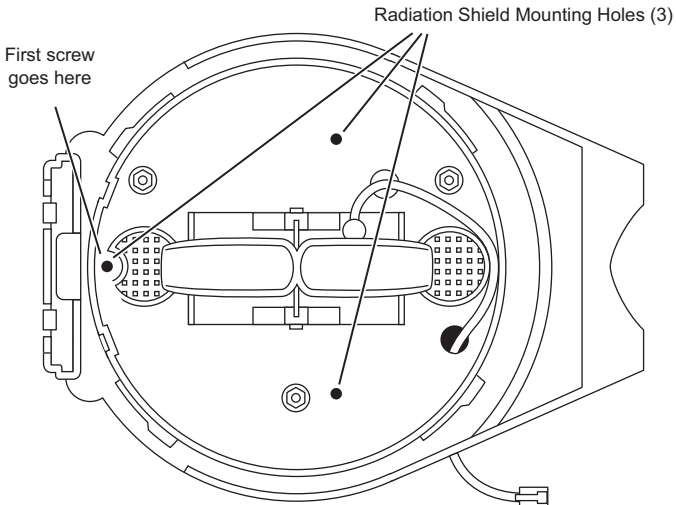

Figure 17. Radiation Shield Mounting Holes in ISS base
4. Insert the screw into the ISS base using the hole indicated for the first screw. See Figure 17. .